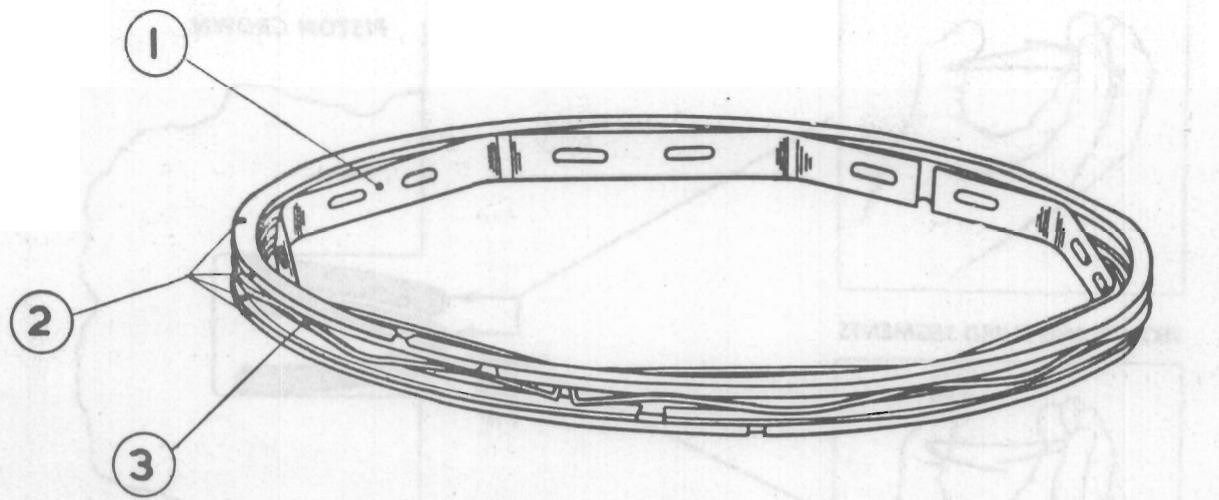

Fig. F.8.
The spring loaded scraper ring comprises one internal expander ring (1), two rail rings (2) each side of the spiral ring (3). See Fig. F.8.
This spring loaded scraper ring is an alternative to that shown in Fig. F.8 and consists of 4 flat segments, one cupped segment and a spacer.